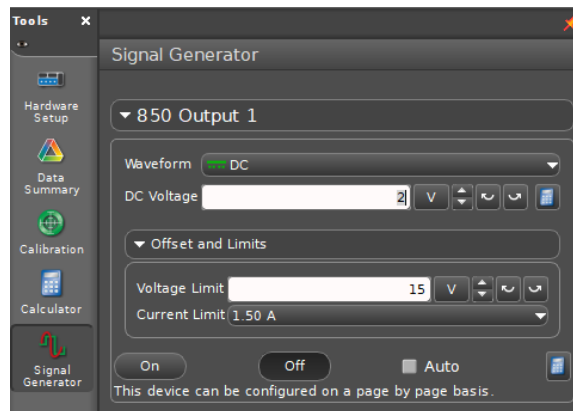

Figure 2: Signal Generator
4. Connect the Motorized Cart power cord to Output #1, and make sure the cart is on the OFF/EXTERNAL setting. With the DC Voltage set to 2 volts, turn the output on and off to ensure that the cart is working. You can open and close the output window by clicking on the Signal Generator icon in the tool palette (see Fig. 2).